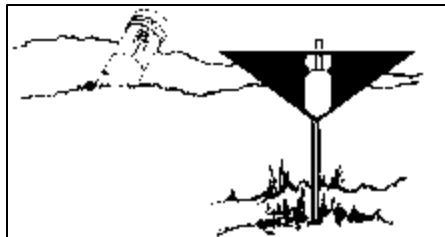

Figure 76. Marking a UXO with a standard marker.
- (2) The UXO marker is placed above ground at waist level (about 3 feet) with the bomb pointing down as shown in Figure 76. The marker should be placed no closer to the hazard than the point where you first recognized the UXO hazard. The marker should be attached to a stake (Figure 76), a tree, or other suitable holder. Just be sure that the marker is clearly visible.